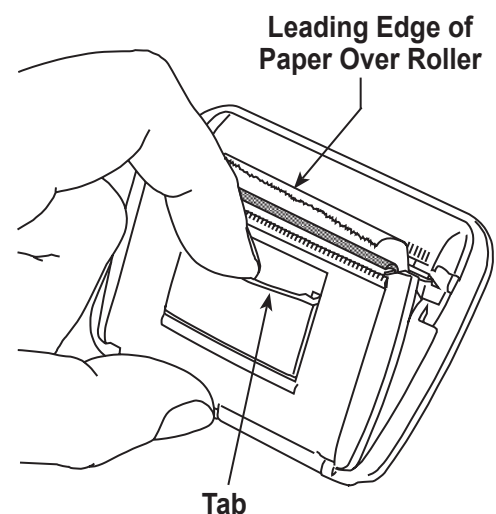

Figure 12
1. Remove the cover on the printer by pulling out on the tab as shown in Figure 12.
8. Place the printer into the cut-out area on the control panel. Press the face of the printer flush to the panel, oriented with the paper coming out at the top of the printer as shown in Figure 12.